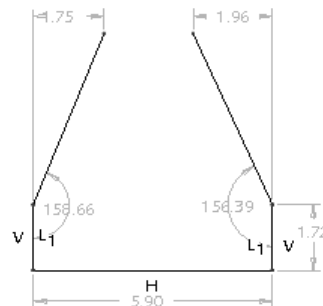
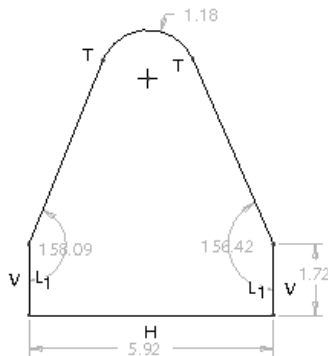

Figure 2-23 Partial sketch with weak dimensions
Figure 2-24 Sketch with arc
- Draw an arc and a circle, refer to Figures 2-24 and 2-25.
Figure 2-23 shows the lines that you have drawn. Notice that when you end the line creation by pressing the middle mouse button twice, all the constraints that you have applied become visible, refer to Figure 2-23. Now, you need to draw the arc and the circle.
The horizontal constraint **H** and the vertical constraint **V** appear in blue color. The blue color of the constraint indicates that the constraint is strong. This means you cannot change the orientation of the line until you delete the constraint applied to the line. The constraints displayed in light blue color indicates that they are weak constraints, refer to Figure 2-23.
4. As the tangent constraint appears, click to end the arc creation. You will notice that the tangent constraint with the symbol **T** appears at the endpoints of the arc, as shown in Figure 2-24. Press the middle mouse button to end the arc creation.
Note that in Figure 2-23, there are some weak dimensions that are not displayed in Figure 2-24. This is because weak dimensions get deleted without confirming their deletion. Hence, after drawing the arc, some weak dimensions get deleted automatically.